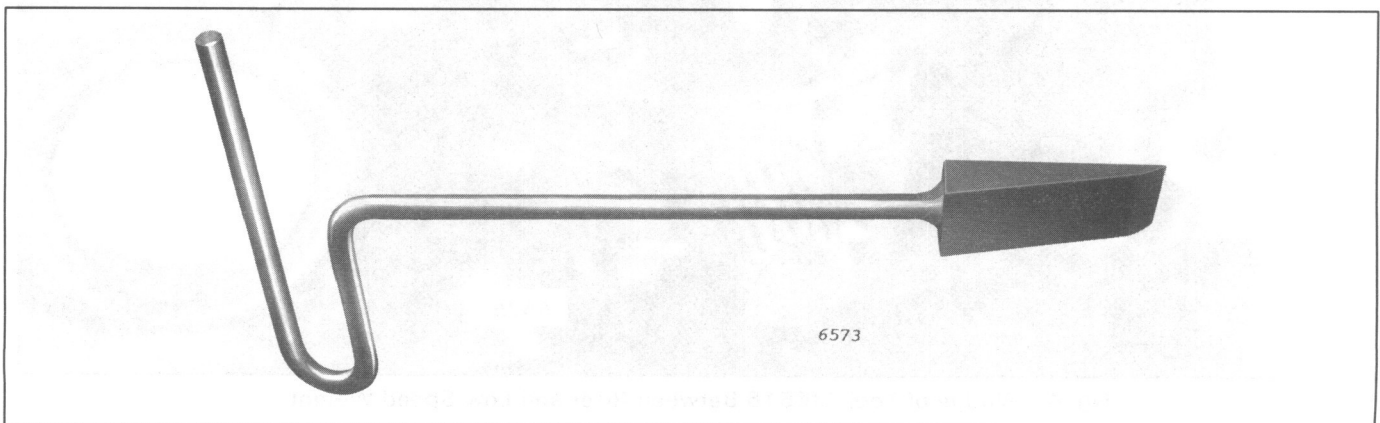

Fig. 2 – Governor Weight Wedge Tool J35516
4. Insert governor weight wedge J35516 between the low-speed weight and the governor riser (see Figs. 2, 3 and 4). The tapered face of the wedge should be against the riser and positioned between the flanges on the ends of the riser.